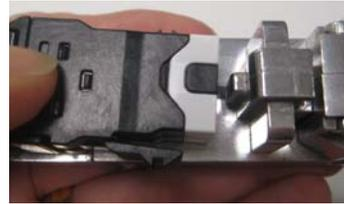

Figure 8
6. Insert the pre-assembled modular jack into the SL termination tool (refer to Instruction Sheet 408-8858). If the modular jack has a dust cover, the dust cover must be opened before inserting the modular jack into the tool. See Figure 8.
- Added modular jack with dust cover to Figures 8 and 9